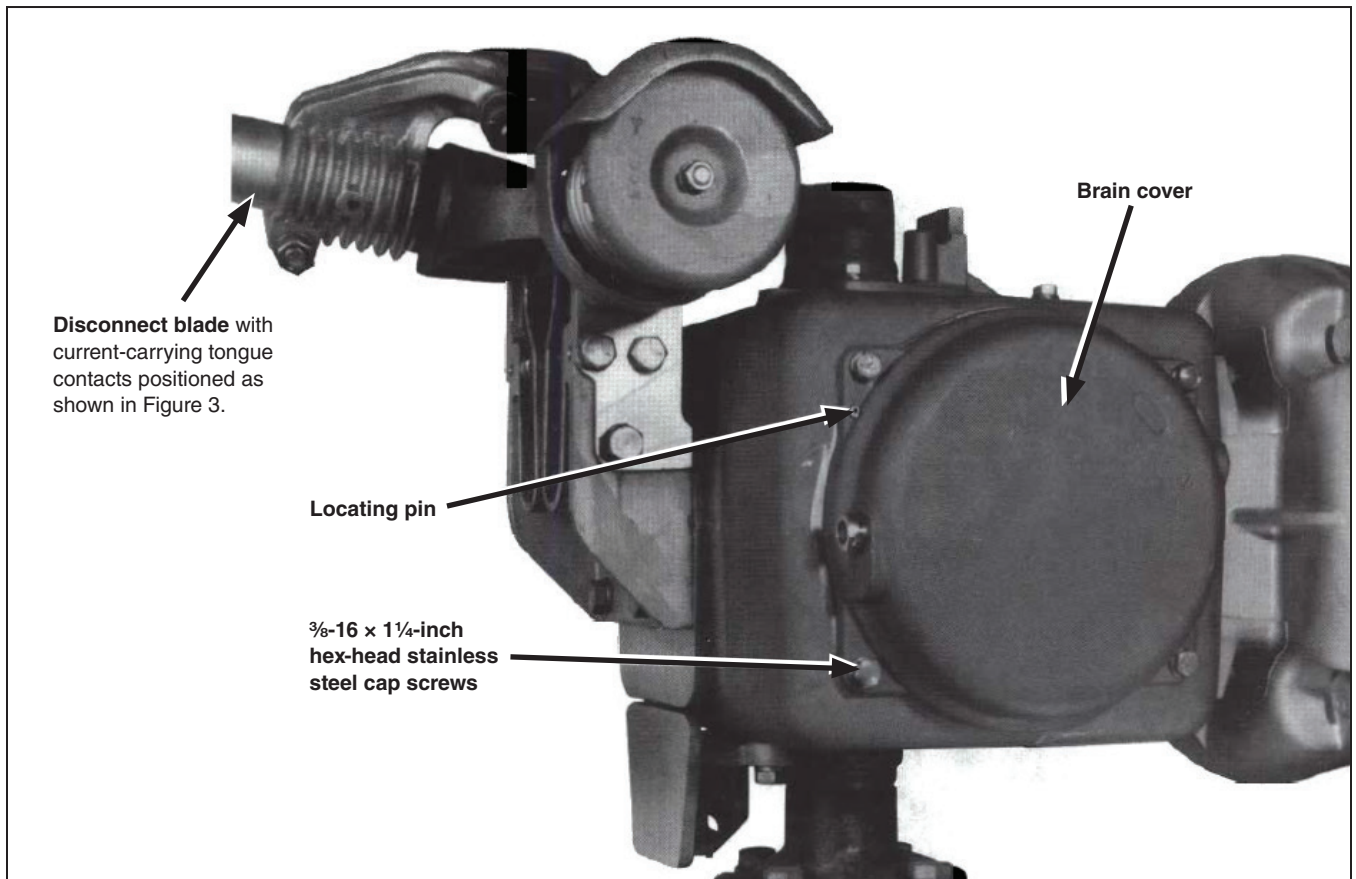

Figure 4. Removing the brain cover on non-shunt-trip equipped Mark V or Mark IV Circuit-Switchers.
With the disconnect in this position, remove—at the brain of the last pole-unit to trip—the four  $\frac{3}{8}$ -16  $\times$   $1\frac{1}{4}$ -inch hex-head stainless-steel cap screws from the brain cover. See Figure 4 on page 11. Use a small screwdriver or pry tool, if necessary, to pry the brain cover loose, but be careful not to damage the internal O-ring seal.
**STEP 7.** Replace the brain cover(s) using the locating pin on each brain housing (if furnished) as a positioning guide. See Figure 4. Take care not to damage the O-ring seal. Secure each brain cover using the reserved four 3/8-16 × 1 1/4-inch hex-head stainless-steel cap screws removed in Step 4 on page 9.